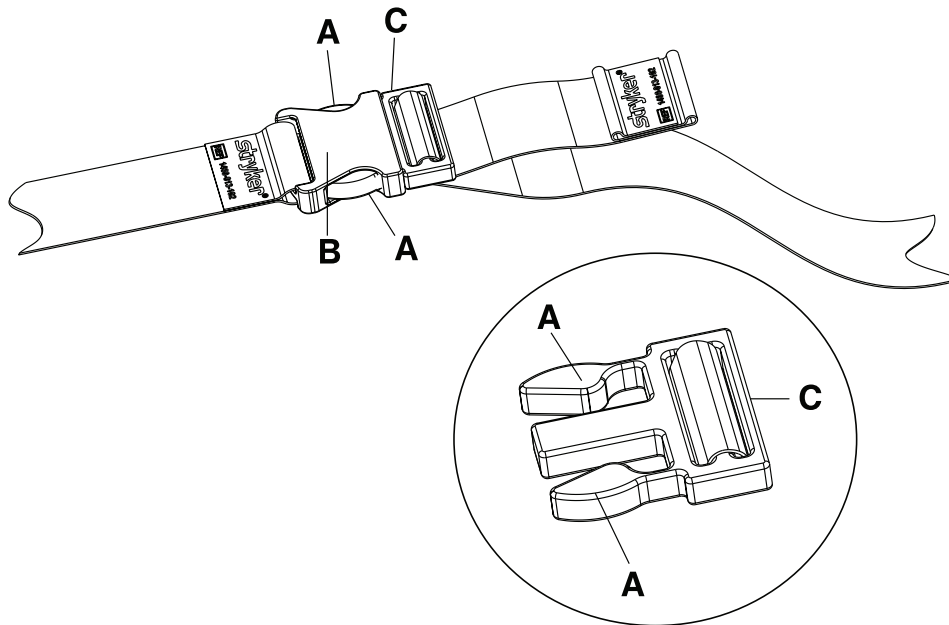
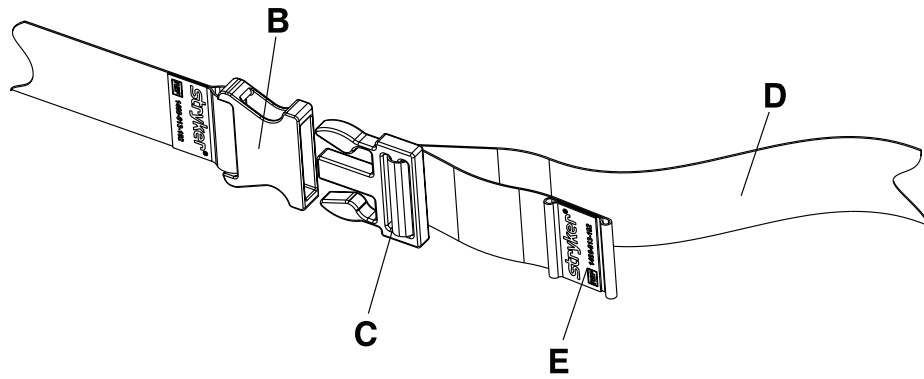

Figure 16: Open the lap belt
Figure 17: Close the lap belt
1. **To open the lap belt (Figure 16 on page 29):**
- a. Grasp and squeeze the tabs (A) on the buckle latch.
- b. Pull on the buckle receiver (B) and the buckle latch (C) to separate them.
2. **To close the lap belt (Figure 17 on page 30):**
- a. Push the buckle latch (C) into the buckle receiver (B) until you hear a click.
- a. With one hand, grasp the buckle latch (C) (Figure 16 on page 29).
- b. With the other hand, grasp the strap (D) (Figure 17 on page 30) .
- c. Pull the strap out through the buckle latch (C) until you achieve the desired length.
- a. With one hand, grasp the buckle receiver (B) (Figure 16 on page 29).
- b. With the other hand, grasp the hemmed end of the strap (E) (Figure 17 on page 30).
- c. Pull the strap through the buckle receiver (B) until you achieve the desired length.
5. Make sure that the buckle latch (C) is secure. Do not allow any extra strap to hang loose or tangle in the wheels.